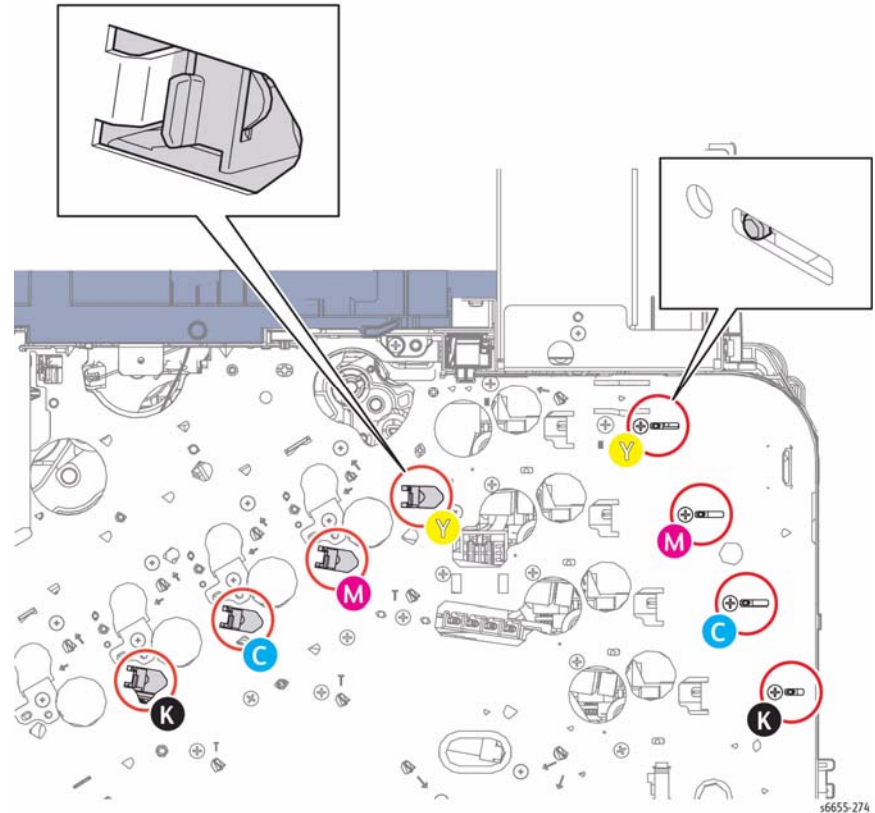

Figure 3 Reinstalling the Dispenser Assemblies Y, M, C, and K
- Before securing the Dispenser Assemblies, make sure that the lug on the front and the hook on the rear are correctly in place as shown in Figure 3.